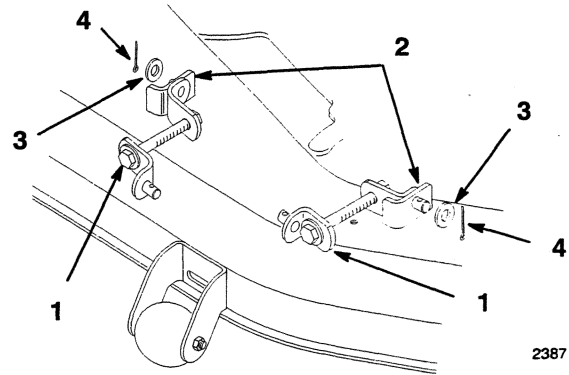

Figure 3
5. Place adjustable links, with bolt heads down, between brackets on the front of the mower (Fig. 3).
6. Secure to brackets with 1/2" washers and 1" (26 mm) cotter pins (Fig. 3).